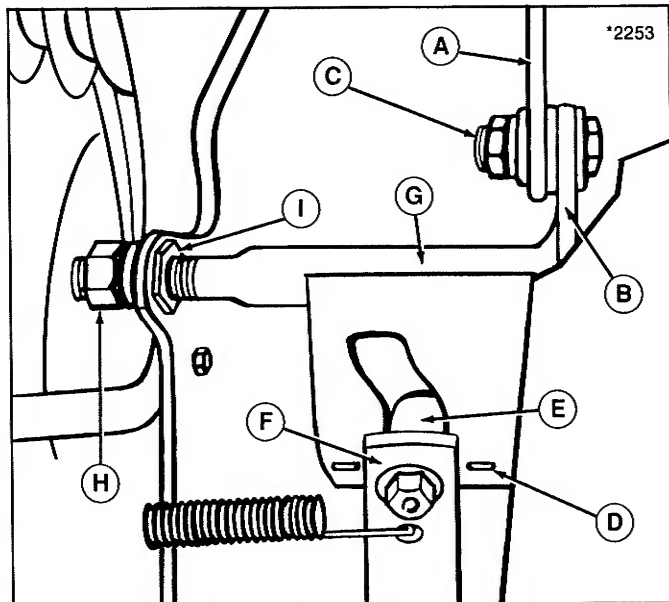

Figure 26. Hydrostatic Neutral Adjustment
2. Raise the seat deck and check if the pump control arm roller (E, figure 26) is exactly centered with the centering mark (D). If not, loosen bolt (C) and move the control cam (B) until centering mark (D) is centered on roller (E). Tighten the bolt (C).
4. Stop the engine, set parking brake, and raise seat deck. Loosen the jam nut (H) on end of cam pivot shaft (G). If tractor creep had been in reverse, turn adjusting nut (I) 1/8 to 1/4 turn clockwise when viewed from right side of tractor. If tractor creep had been forward, turn nut 1/8 to 1/4 turn counterclockwise. Lock jam nut, lower seat